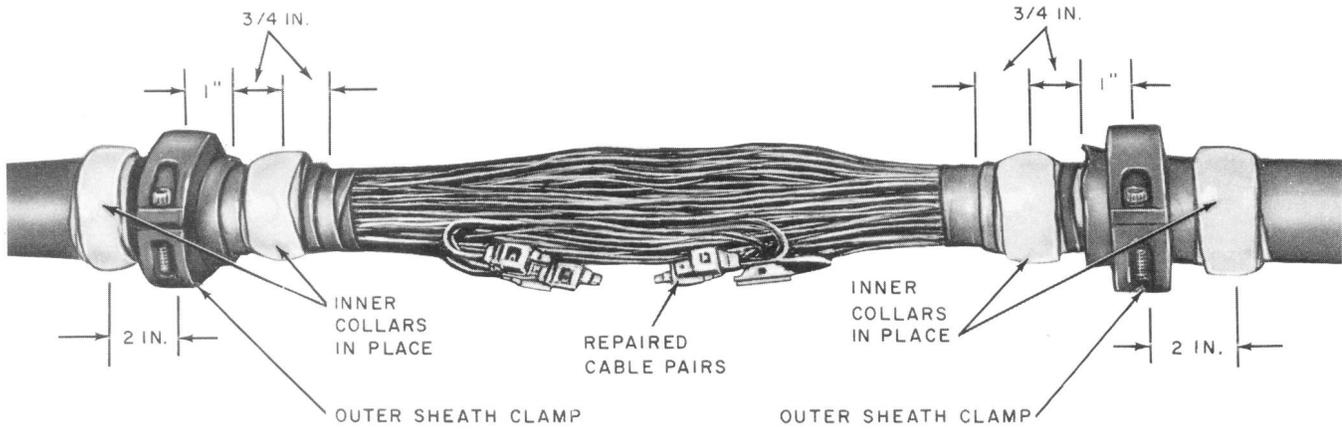

Fig. 16—Sheath Clamps and Collars Placed—Dual Sheath Cable
5.04 Place sheath clamps and collars on the inner and outer cable sheaths as outlined in 4.03 and 4.06, respectively. Figure 16 illustrates the sheath clamps and collars placed.